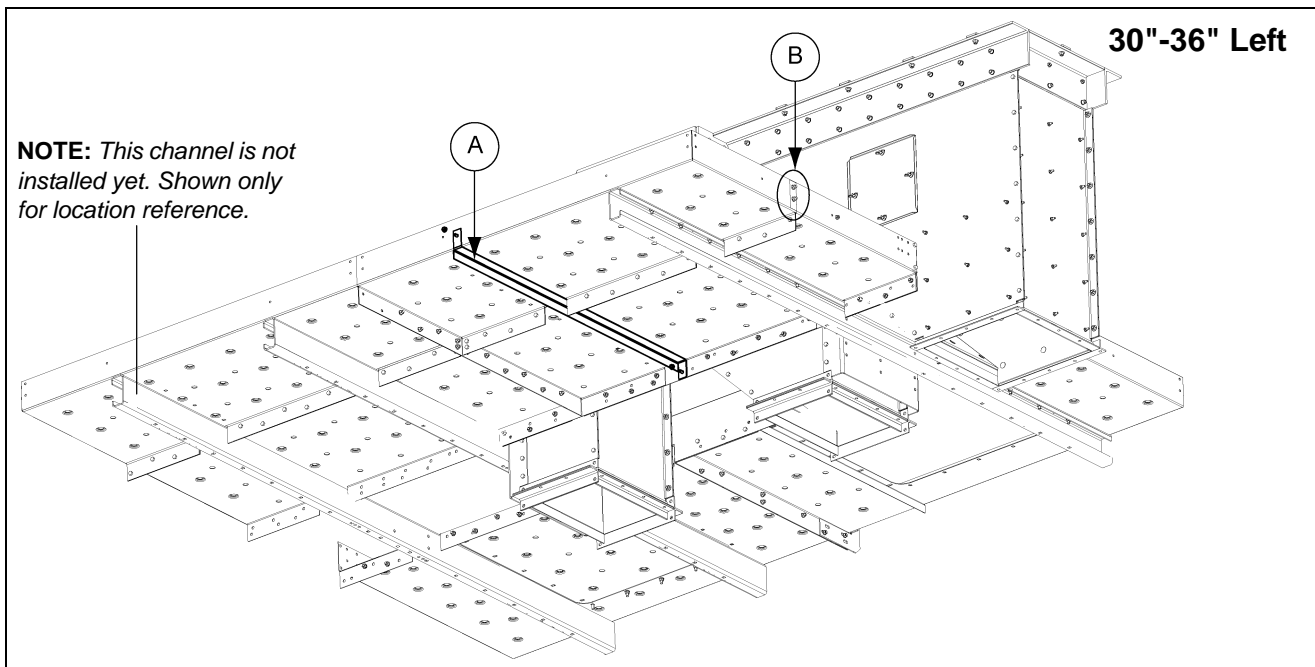

Figure 9N
7. Install the head platform hatch deck support (HP1648HDS) (A) under Deck C and Deck F using 3/8" x 3/4" bolt (S-7105) and nut. (See Figure 9N.) **NOTE:** You may need to remove a bolt from the toe board if one was installed in this location.